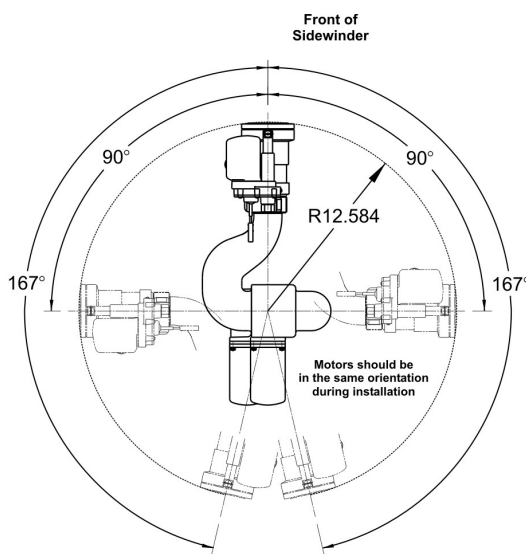
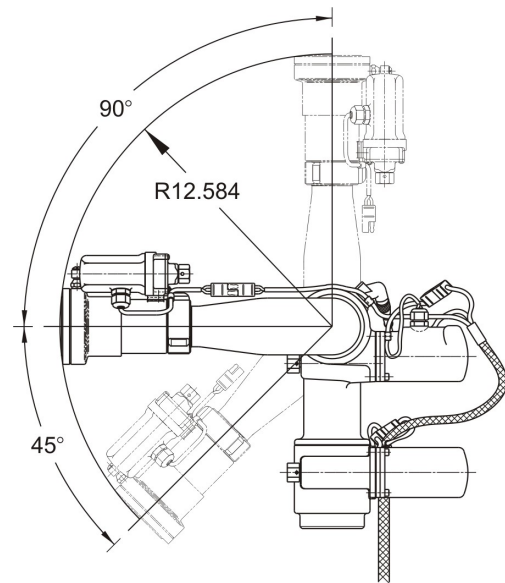

Figure 8
Figure 9
Before mounting the Sidewinder[®] monitor, ensure that both the horizontal and vertical rotation envelopes are clear of all obstructions. See Figure 8 and Figure 9 for envelope dimensions. The rotation limits are determined by the magnet locations in the monitor body, and cannot be adjusted. (Exception: A 334° monitor can be made into a 180° monitor by adding two magnets through an access hole).
- 1) Ensure the left-right and up-down motors are aligned as shown in Figure 8.